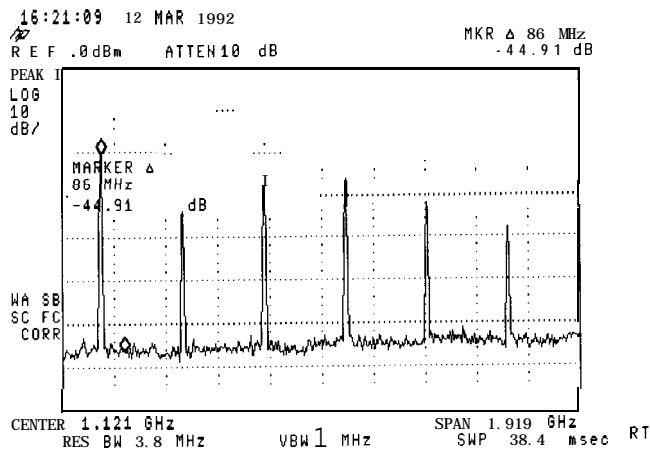

Figure 3-14. Using the Marker to Peak/Peak Function
- The MARKER →PK-PK softkey can be used to find and display the frequency and amplitude difference between the highest- and lowest-amplitude signals. To use this automatic function, press **(MKR→)**, More 1 of 2, **MARKER →PK-PK**. See Figure 3-14.